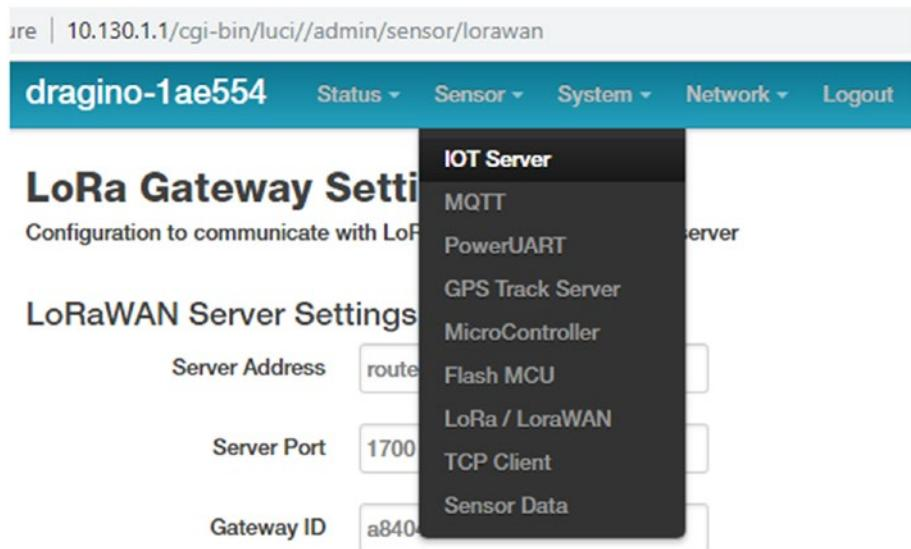

Figure 8-10. Menu command for accessing IoT Server settings
13. Finally, in the configuration interface, select Sensor ➤ IoT Server (Figure 8-10).